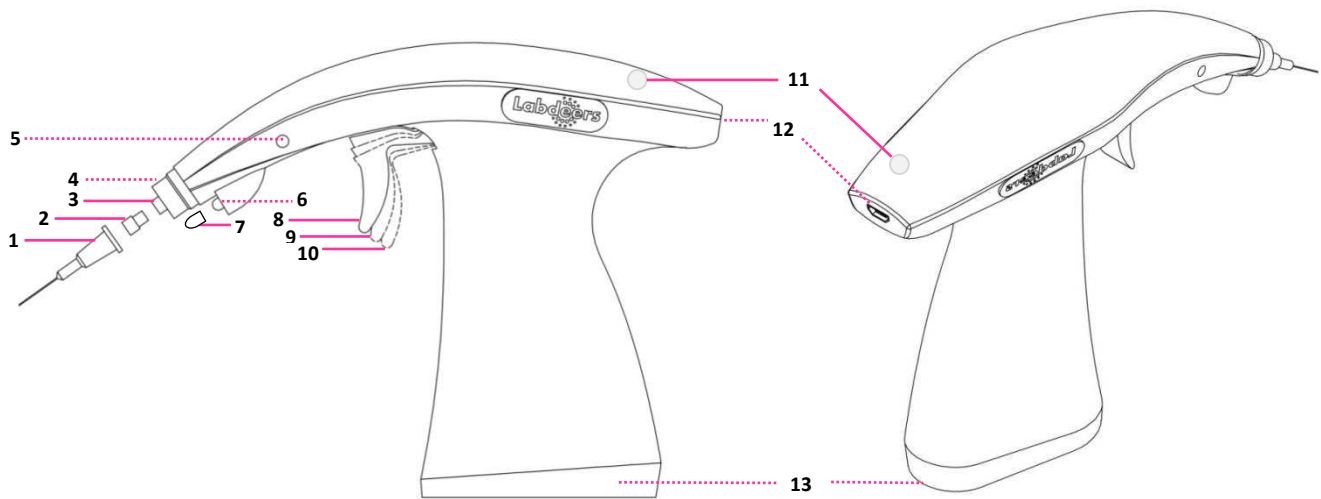

Figure 1 - Schematic technical overview of GentleGrab laboratory tool
SUCTION MODE - press the trigger to the 1st working position (Fig. 1, point 10). The vacuum is now provided until the working mode is changed. Samples can be sucked at the nozzle tip.
PRESSURE MODE - press the trigger to the 2nd working position (Fig. 1, point 11). The mild air pressure is produced until the working mode is changed. It is used to release sample from the nozzle tip surface, or for sample spreading on working area.
1. To attach the nozzle, hold the nozzle hub and insert the nozzle straight to the nozzle connector (Fig. 1, point 3).
2. By slight rotation fix the nozzle in the nozzle holder (Fig. 1, point 4).